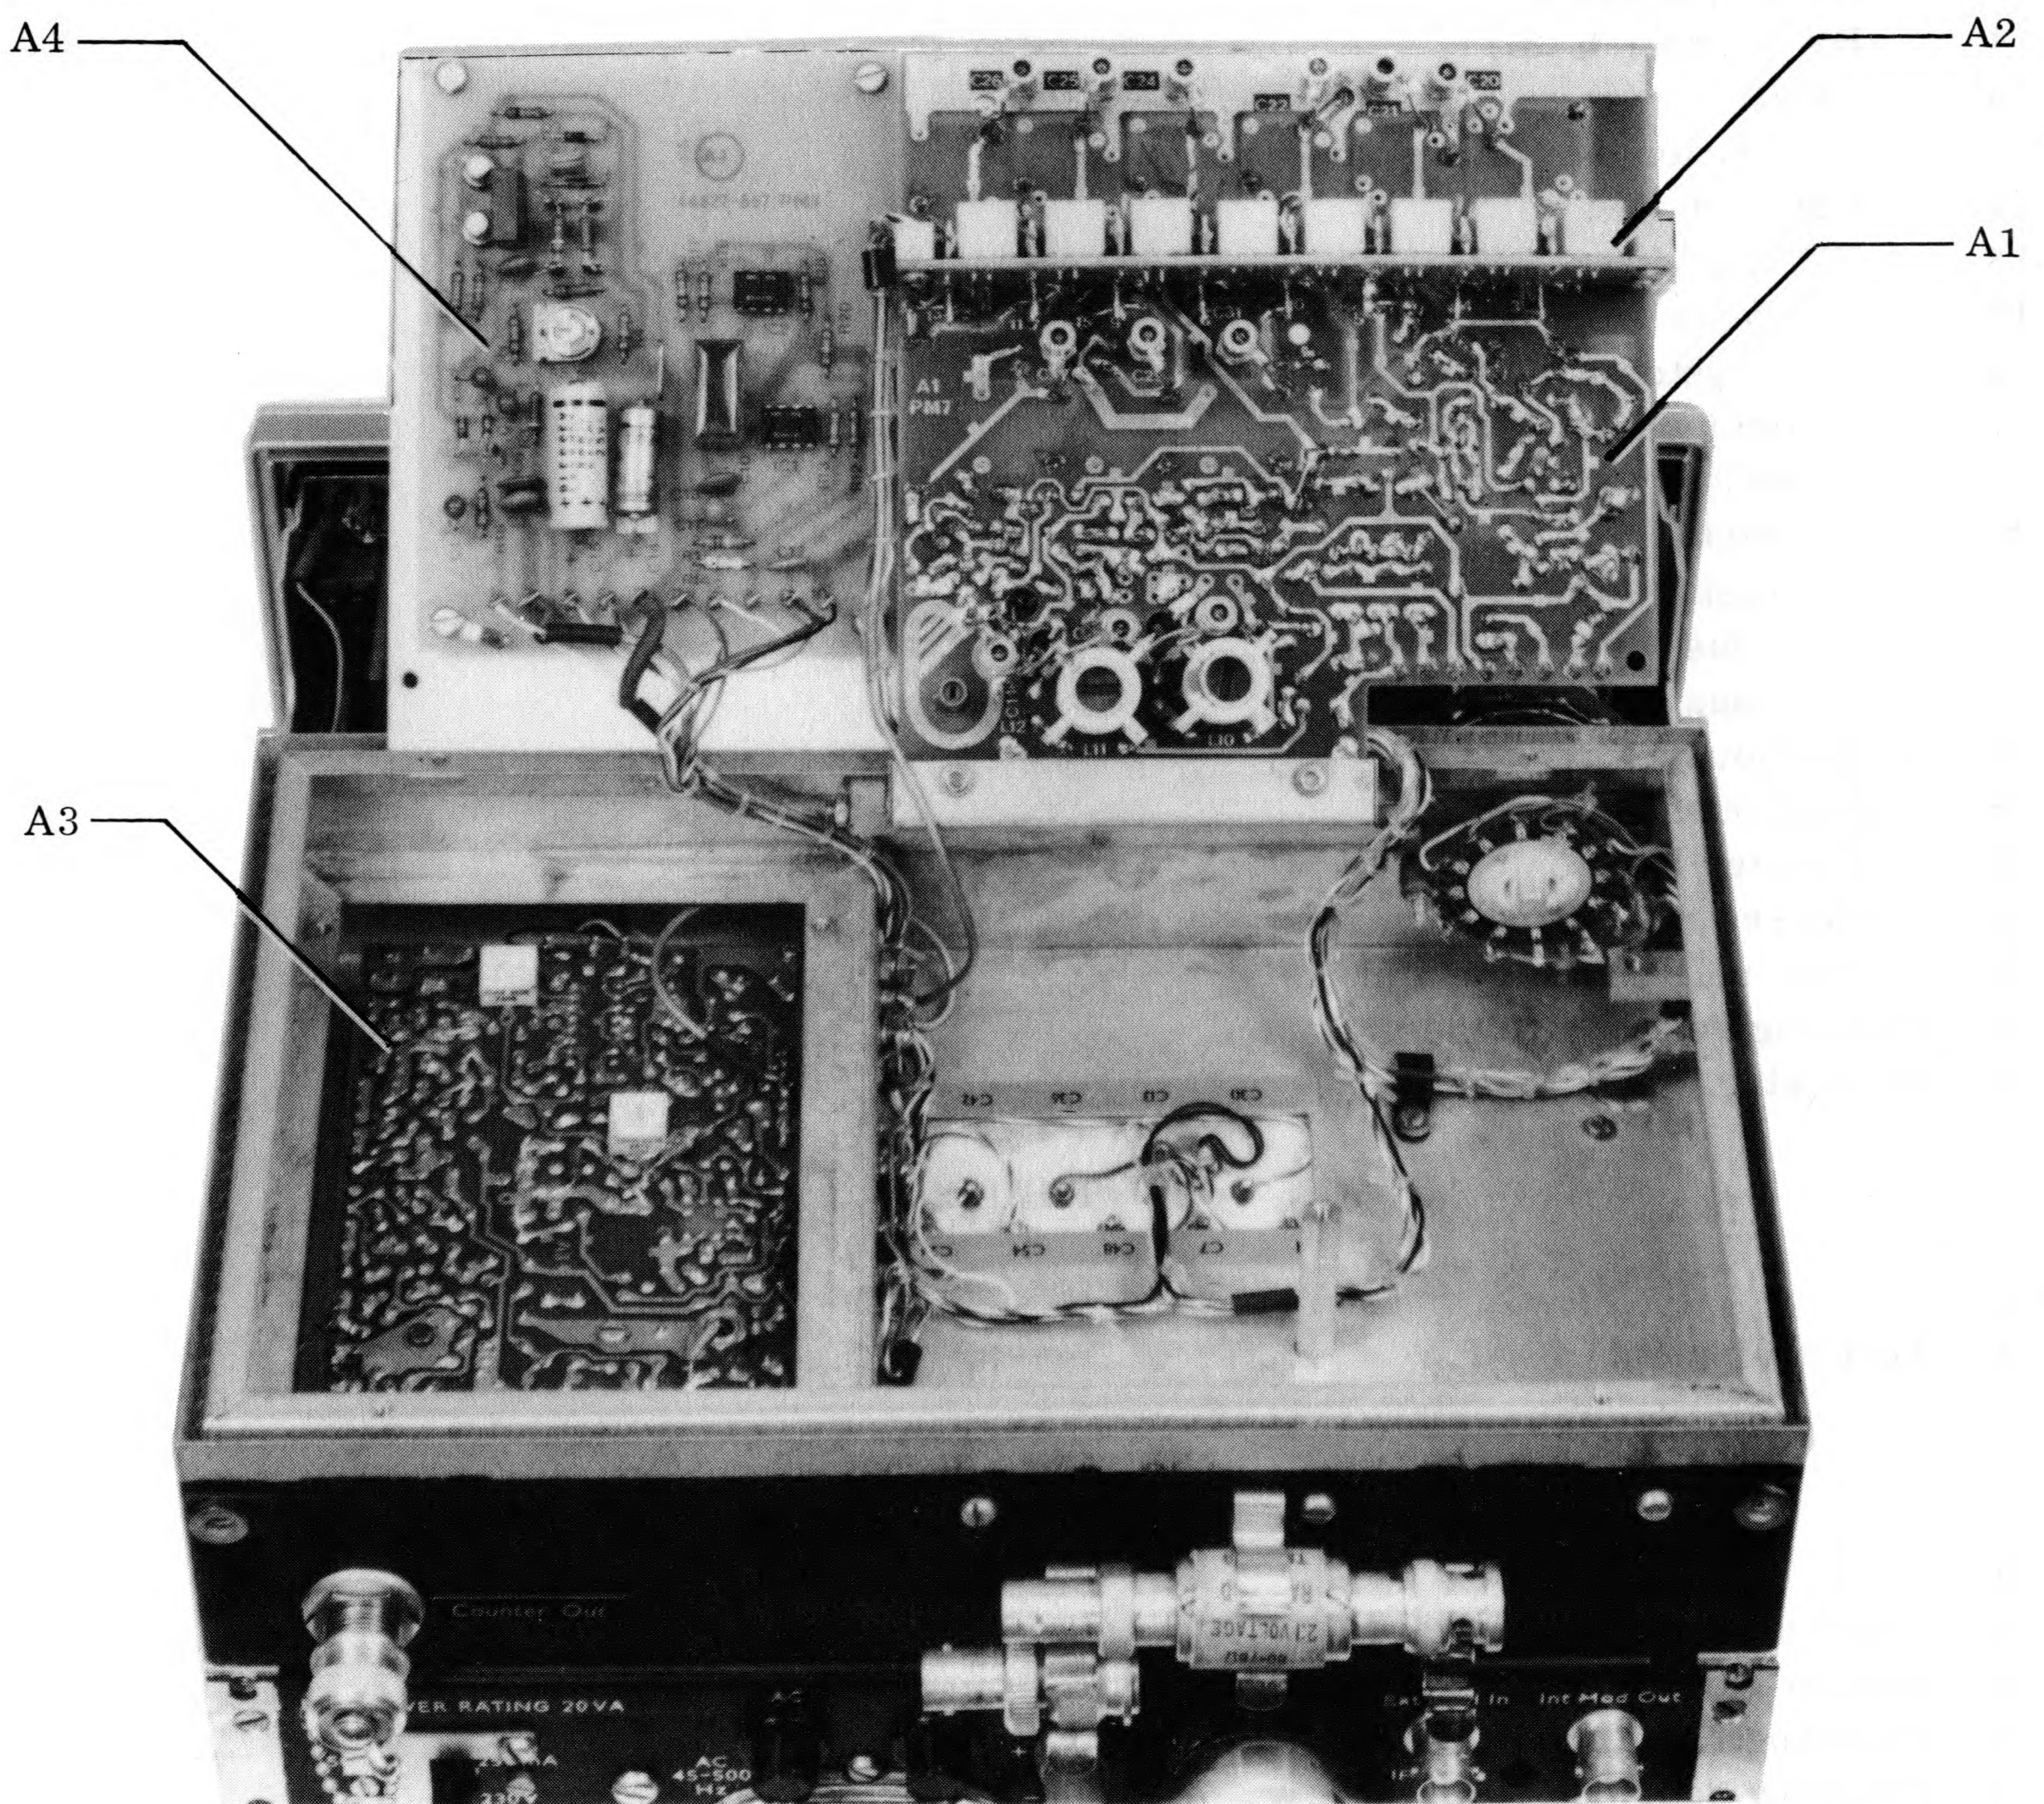

Fig. 1 Top view showing boards A1 to A4
4. A1 and A2 form the r.f. oscillator mother board, which is contained within the r.f. box. To obtain access, remove the cover of the r.f. box by removing the four fixing screws. Unit A1/A2 is hinged to provide access to the underside of A1 and to A2 as shown in Fig. 1. A1 is retained by five M3 screws, one of which is in the middle of the board. The hinge pivot bolts must be loosened before hinging the board out for access.
5. The position of these units is shown in Fig. 1. Access to A3 is obtained by removing the four screws holding the screening plate and then by carefully folding this back with A4 attached. A3 is retained by four M2 screws and the nut of the output socket mounting pillar - this special nut is 2BA across flats. A4 is retained by four M3 screws.
7. These are contained in a separately screened compartment. Inputs and outputs can be accessed through the associated capacitors which are accessible by carefully folding A5 upwards and folding A1 back as shown in Fig. 1.
- (1) Set the FUNCTION selector at CW and CARRIER switch at ON then ensure that the pointer of the MOD/CARRIER meter is within the white box on the meter scale.
- (2) Connect the counter to the RF OUTPUT socket on the front panel. Set the CARRIER RANGE selector in turn to ranges 1 to 12 and check, using the TUNE, FINE TUNE and EXTRA FINE TUNE controls, that the scale calibrations at three points on each range, i.e. low and high frequency ends and at a centre frequency, are within  $\pm 2\%$  of counter indication.
- (3) If necessary, for ranges 1 to 9 inclusive, adjust the appropriate tuning coil core for low frequency correction and the appropriate trimming capacitor for high frequency correction. Since the coil and trimmer capacitor are interdependent ensure that after the second adjustment the first adjustment remains correct.
- (4) For ranges 10 to 12, range 12 should be adjusted first, by means of the small coil former inside the printed coil L12, and its associated trimming capacitor; then adjust range 11, and then range 10. This is because the coils for ranges 10 to 12 are connected in series. The coils are positioned as shown in Fig. 1.